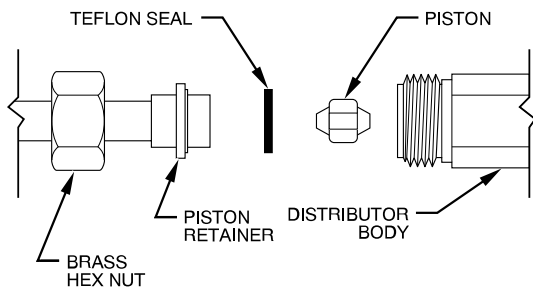

Fig. 18 – Refrigerant Flow-Control Device
2. Recover refrigerant from tubing and coil through high flow service port on suction and discharge lines. Disconnect refrigerant (liquid) tube from distributor body. (See Fig. 18.)